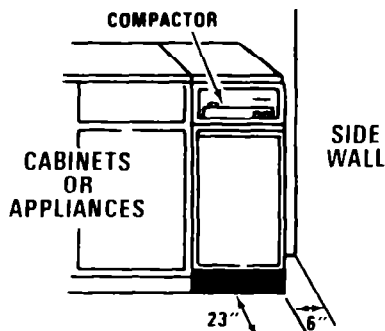

FIGURE 4
3. When installing your compactor, it is desirable to leave at least 6 inches (15.0 cm) clearance from the right edge of the drawer front for convenient bag removal. Also allow 23 inches (58.4 cm) in front of the appliance for drawer removal. See Figure 4.